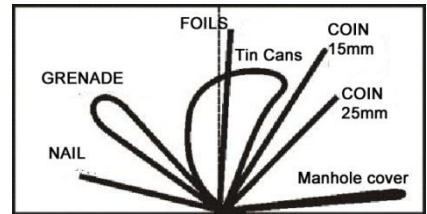

Fig. 14
- a properly ground balanced unit will have a vector along the horizontal axis. Examples of the hodographs of some objects are shown in Fig. 14. Thus, analyzing the shape and position of the hodograph, along the coordinate plane, there can be a certain degree of probability as to the identity of the object type. It should be noted that the hodograph examples given are idealized and do not take into account the effect ground mineralization.